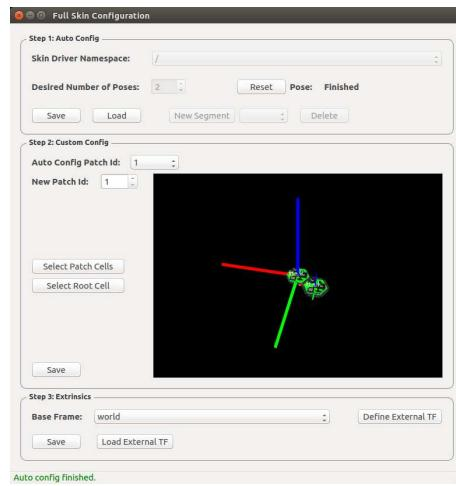

Figure 7.4: Step 2.1
1. Please verify that the skin patch shown in the display is similar to the real skin patch, see Fig. 7.4. The GUI offers different configuration options, but for this simple case you can directly go to **Step 3**.